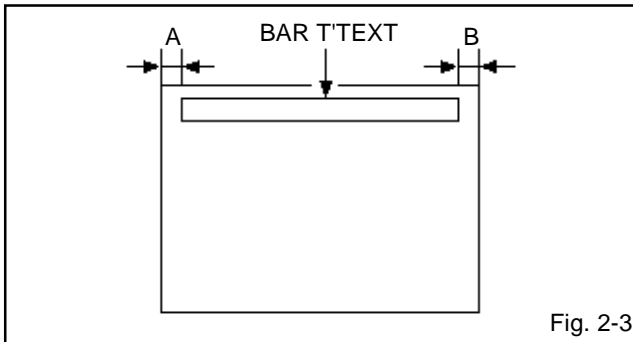

Fig. 2-3
4. Press the VOL. +/- button on the remote control until the difference of A and B becomes minimum. (**Refer to Fig. 2-3**)